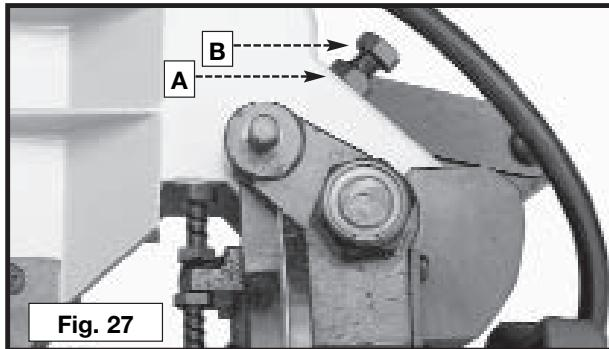

Fig. 27
Loosen the locknut (A) Fig. 27 and turn the screw (B) clockwise to increase, or counterclockwise to decrease the spring tension. After adjustment, tighten the locknut (A).